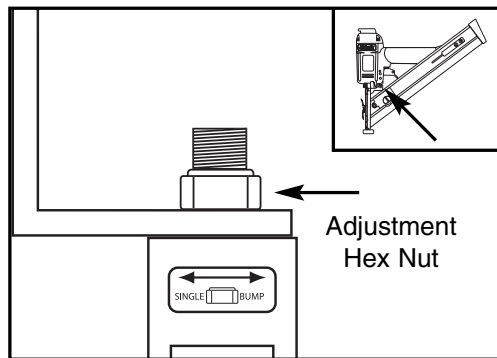

Figure 2. Single/bump fire adjustment.
2. Locate the hex nut that secures the safety yoke mechanism to the trigger housing. See **Figure 2**.